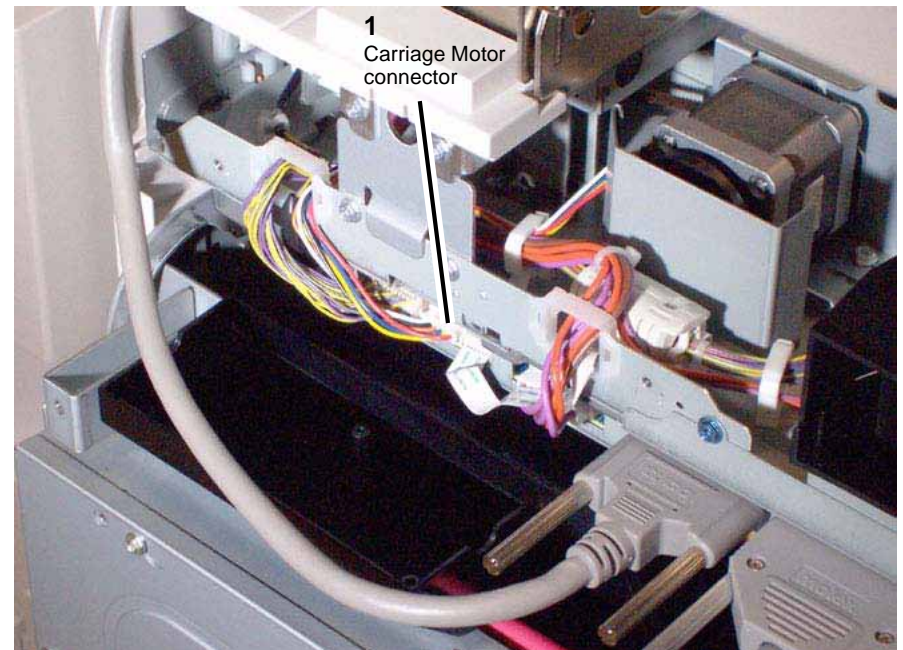

Figure 1 Carriage Motor connector
- a. Remove (4) securing screws.
5. Disconnect the Carriage Motor connector at the rear of the IPS. Figure 1
- b. Release the (3) clamps to disengage the wire harness.